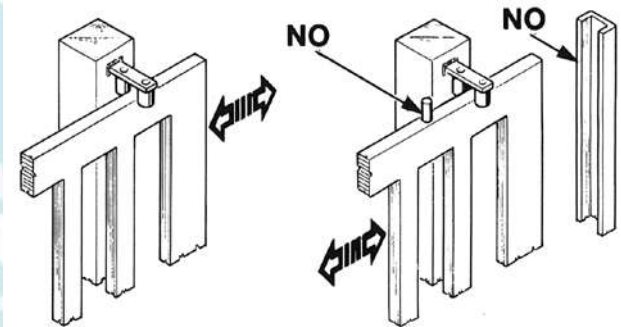

FIG. 3
- Gate columns shall have anti-derailment guides on their top (Fig. 3), to avoid the unintentional gate release.
Note: Eliminate those mechanical stops of the kind described by Fig. 3.